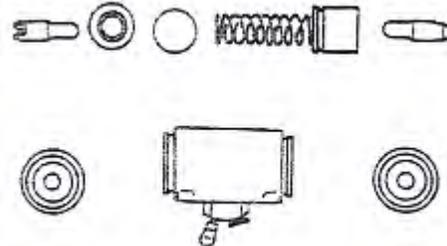

figure 2-22
(7) Analyze subsidiary brake pump: Disassemble scraper seal. Press one terminal piston to push out another terminal one, then push out the rest one with finger. See figure 2-22